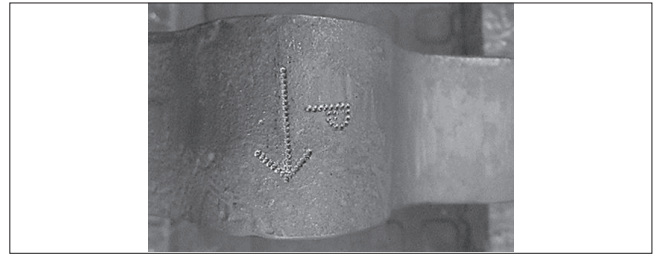

Fig. 7 Pressure direction
- Turn the valve in such a manner that the arrow (P for pressure) on the body points to the pressure direction of the process. (See Figure 7)